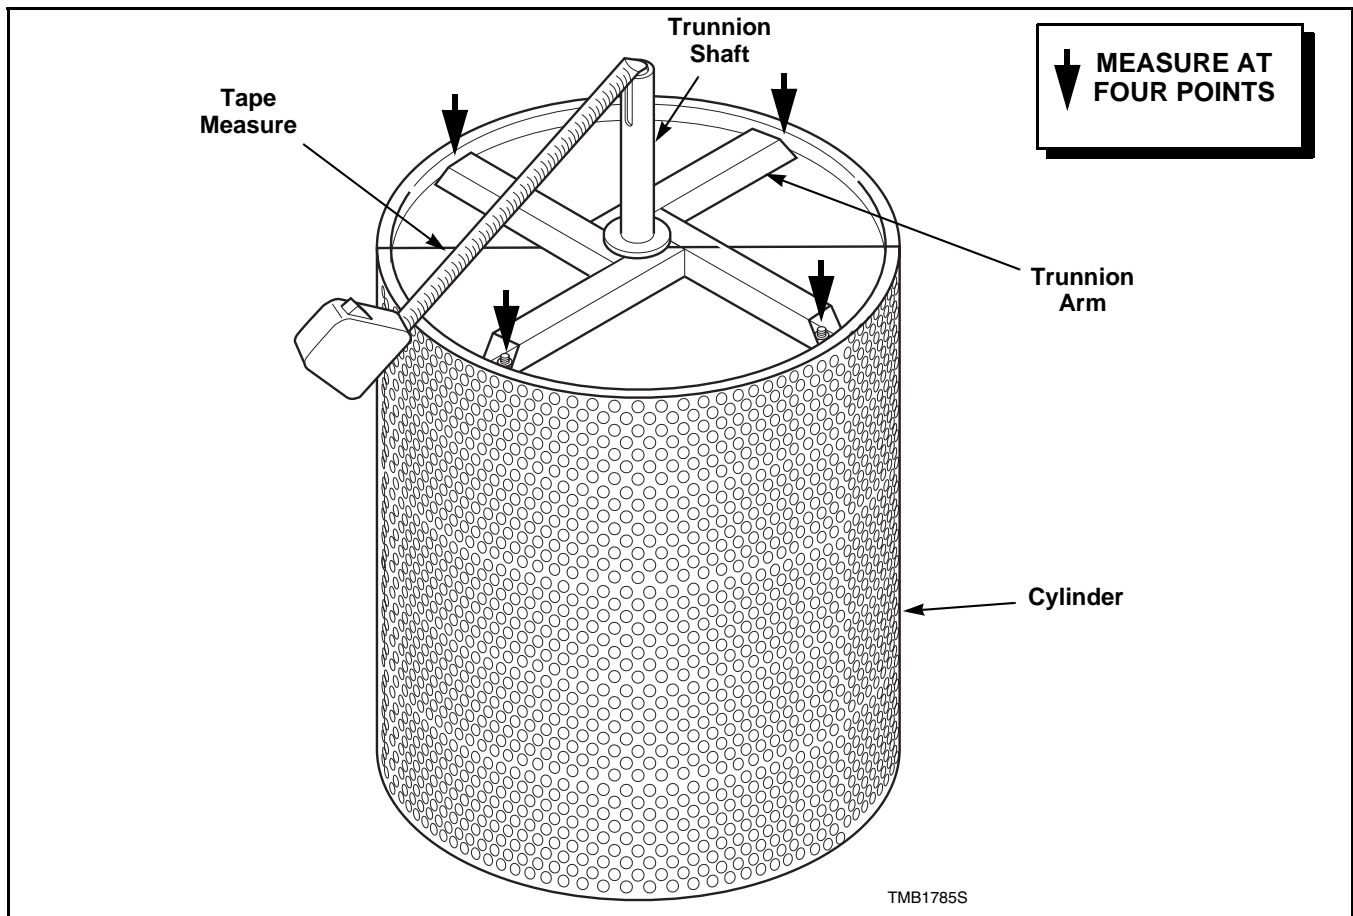

Figure 19
- Remove the eight washers and nuts holding trunnion shaft assembly to rear of cylinder. Refer to *Figure 19*.
**IMPORTANT:** When installing trunnion assembly on cylinder, the cylinder and shaft must be aligned. Refer to *Figure 19*. Measure the distance between the center of the trunnion shaft and the outer rim of the cylinder at the four points shown. If any measurement is less than the largest, place spacer(s) between trunnion arm and cylinder back until all measurements are equal.